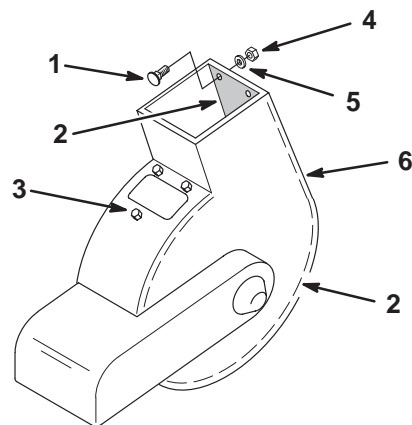

Figure 23
2. Remove the five (5) locknuts, washers and carriage bolts and pull the wear strip from the blower (Fig. 23).
3. Clean the inside of the blower thoroughly (Fig. 23).
4. Slide the new wear strip inside the blower and install the three (3) lower carriage bolts, washers and locknuts. Make sure you install the carriage bolts with the heads inside the blower (Fig. 23).
5. Push the wear strip tight against the inside of the blower and install the two (2) upper carriage bolts, washers and locknuts. Make sure you install the carriage bolts with the heads inside the blower (Fig. 23).
6. Check that the blower impeller clears the wear strip (Fig. 23).